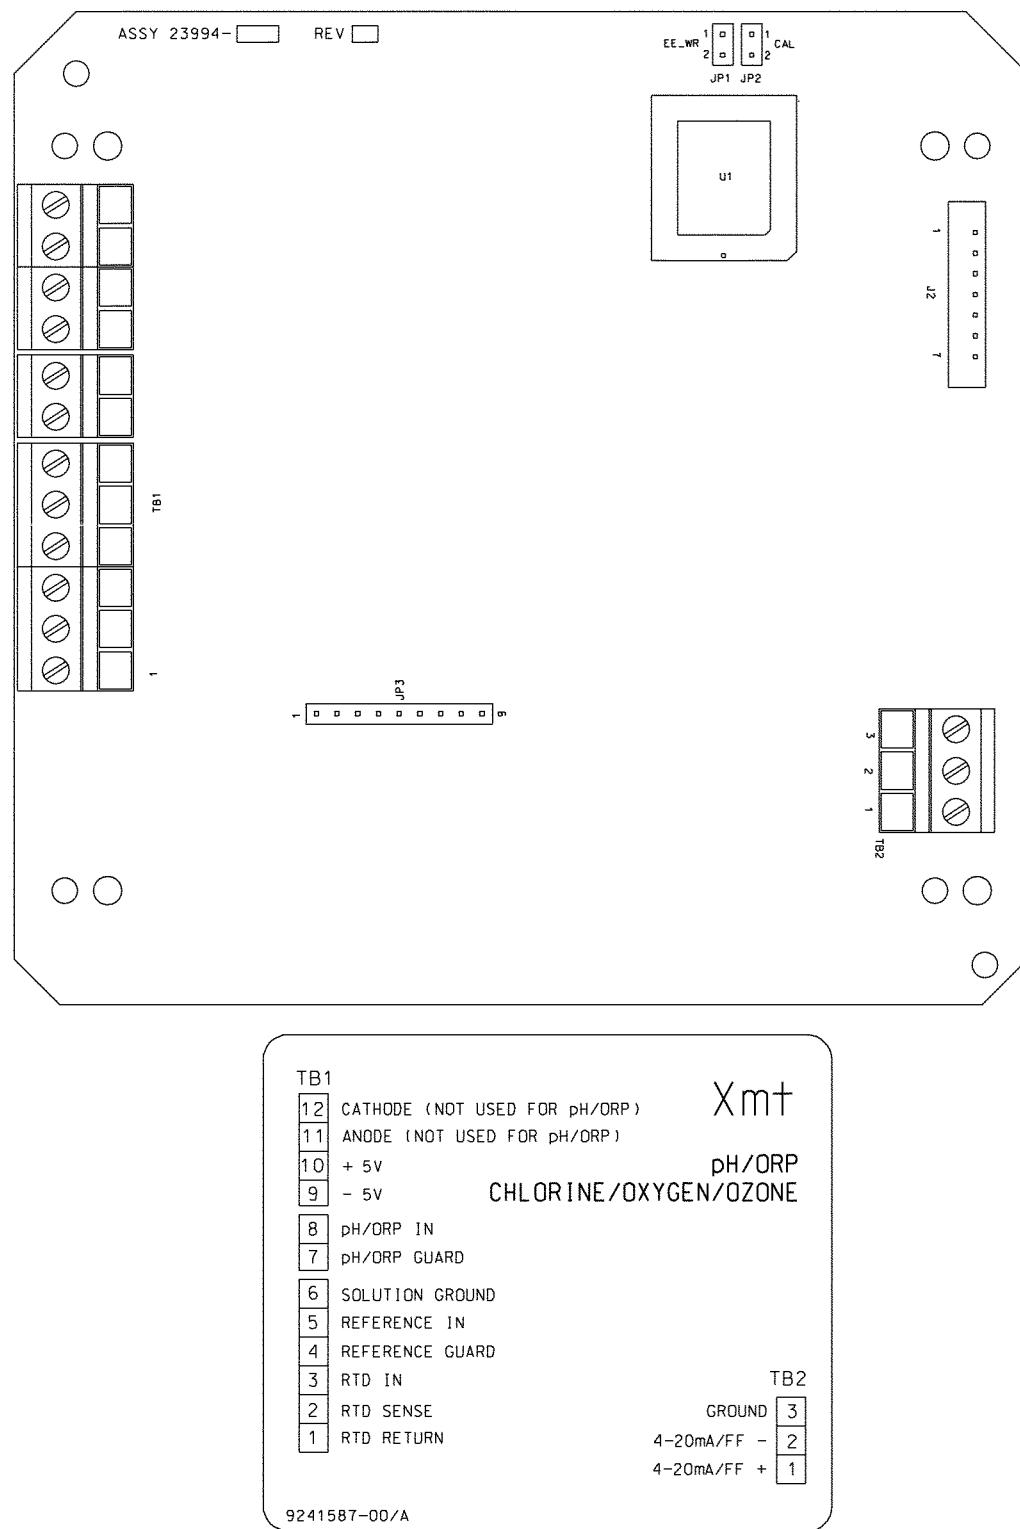

FIGURE 6. Loop Power and Sensor Wiring - Panel Mount
2. Wire pH or ORP sensor to the transmitter. See Figure 6 for panel mount; Figure 7 for pipe or surface mount. Refer to the sensor instruction sheet for details.